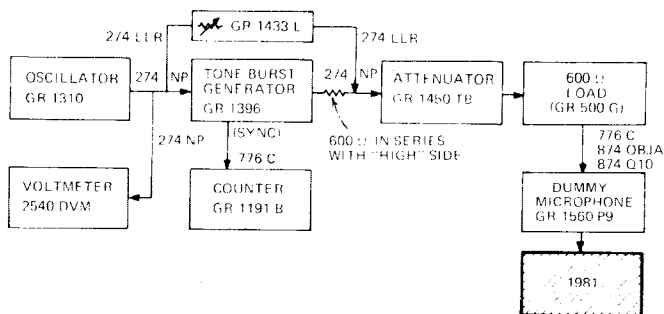

Figure 4-4. Test setup for meter ballistics checks.
a. Make the test setup shown in Figure 4-4.